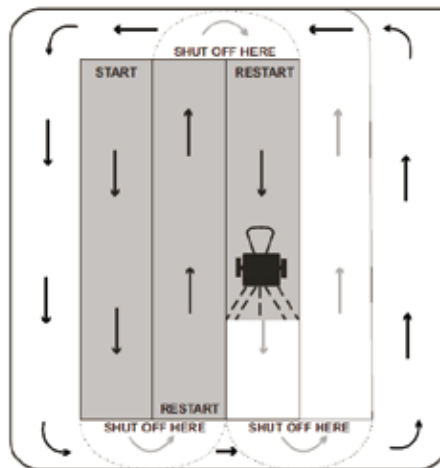

Fig.2
5. Overlap Passes: To avoid streaks, slightly overlap each pass. This ensures full coverage. See diagram below (Fig.2).